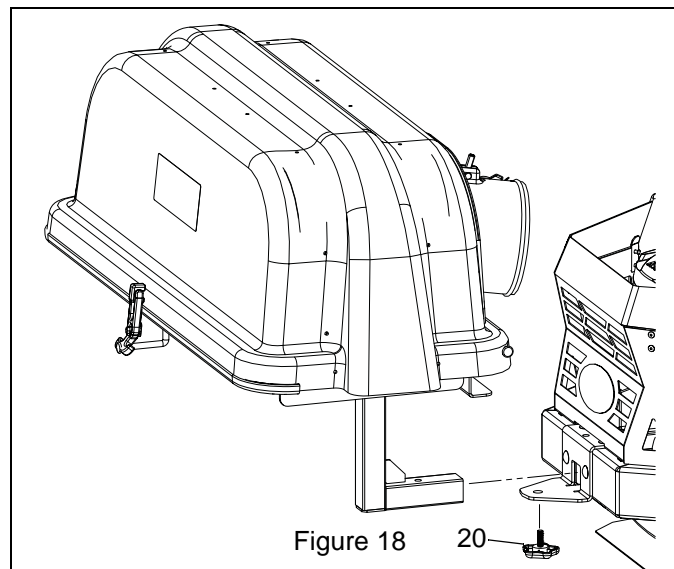

Figure 18
2. Insert mount post into pocket in rear bumper and secure with studded wing knob (item 20). See Figure 18.
4. Remove wing knob from bottom of mount post and remove hood assembly from unit. See Figure 18.